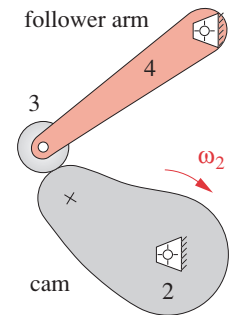

FIGURE P8-2
- 8-3 Figure P8-2 shows a cam and follower. Using graphical methods, find and sketch the equivalent fourbar linkage for this position of the cam and follower.
- *8-4 Figure P8-2 shows a cam and follower. Using graphical methods, find the pressure angle at the position shown.